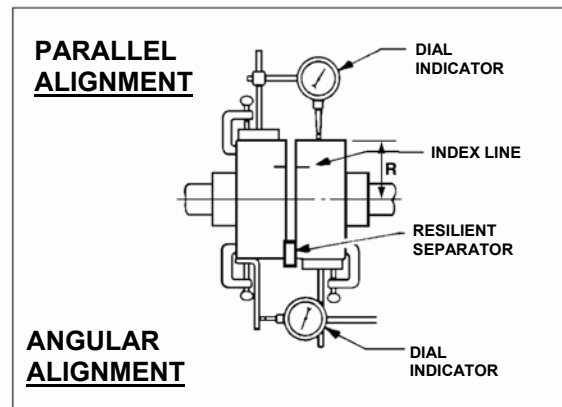

FIGURE 10B – CHECKING ALIGNMENT (METHOD 2)
(See Figure 10B)
- c. Scribe index lines on coupling halves as shown in Figure 10B.
- i. For single element couplings, a satisfactory parallel misalignment is .004"T.I.R., while a satisfactory angular misalignment is .004"T.I.R. per inch of radius R (See Figure 10B).